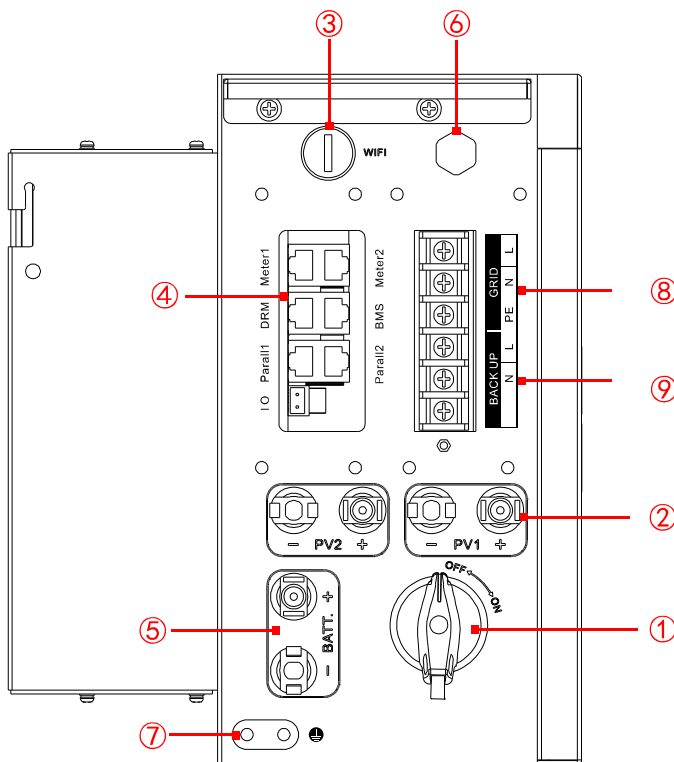

Figure2-8 Inverter terminals location
DC switch (as shown in the ① of Figure2-8) is the connection switch of inverter and PV array. When the inverter works normally, the DC switch must be ON. During installation and wiring, the DC switch must be OFF. Before maintenance, the DC switch must be OFF for 5 minutes, and measure the voltage of DC busbar by multimeter, only when the voltage less than 10V, the maintenance can be done.